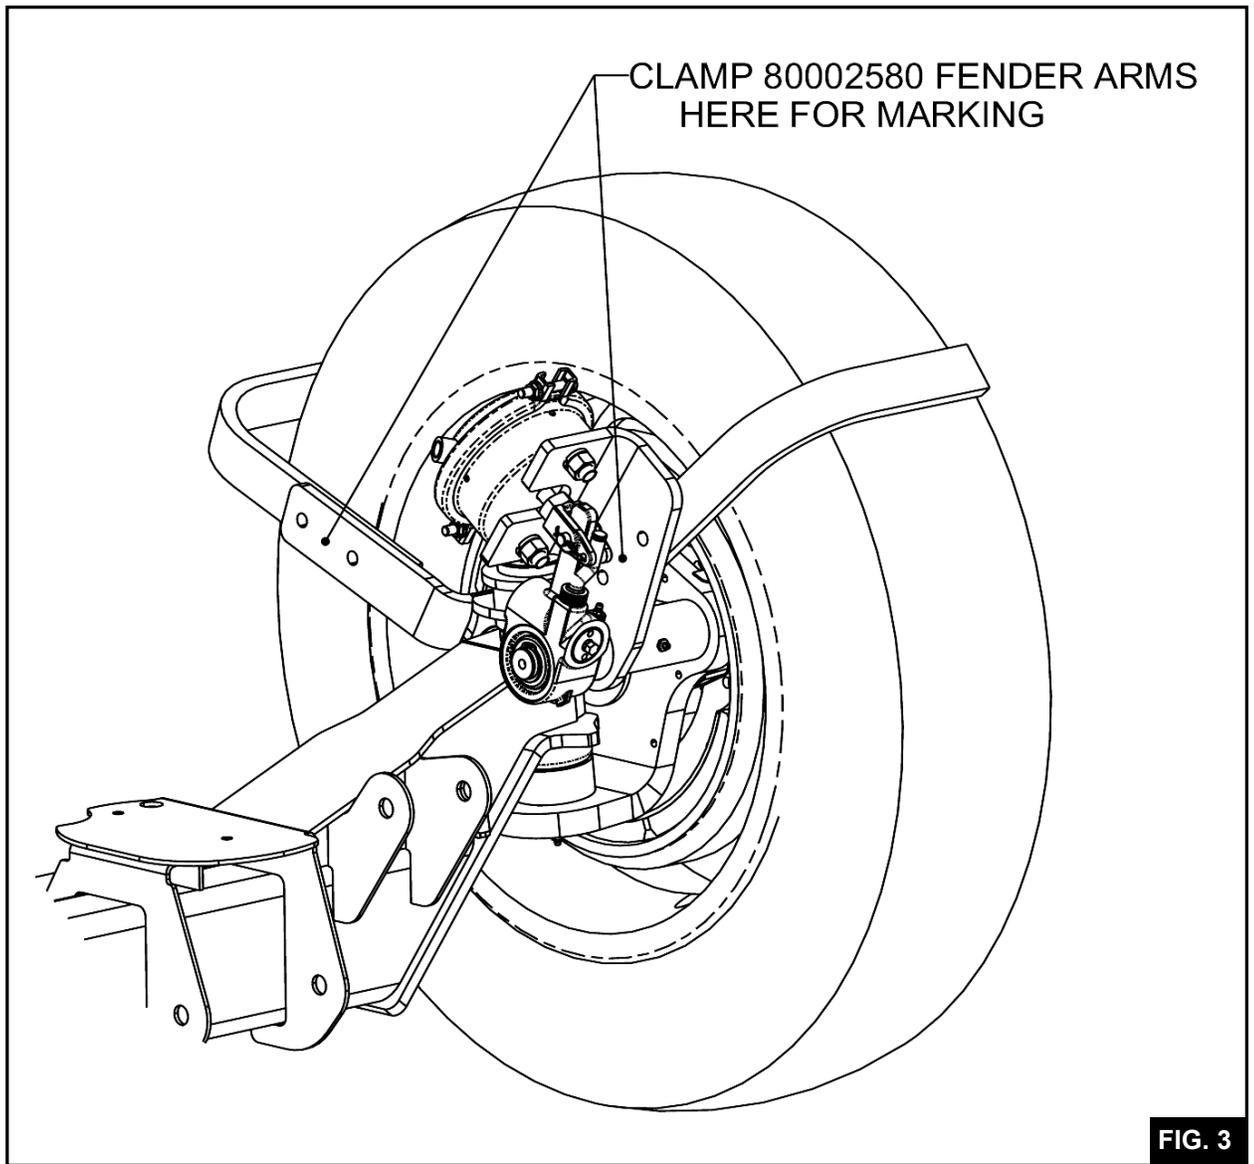
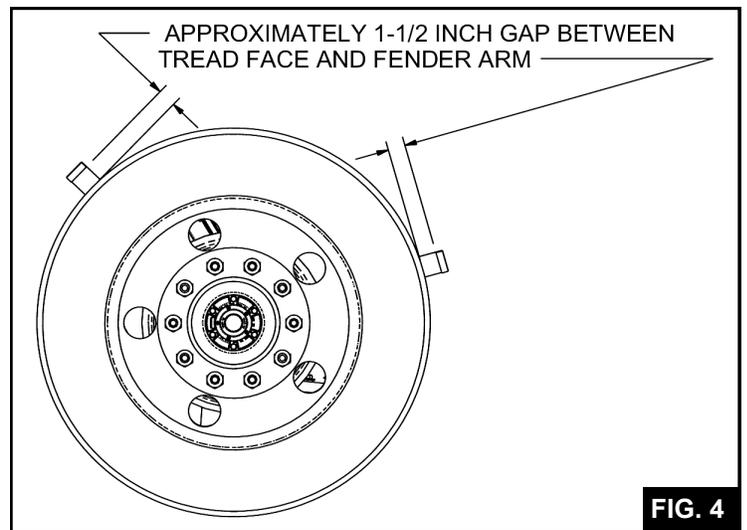

FIG. 3
FIG. 4
3.6 Clamp the fender arms to the mounting brackets as shown in **Fig 3**. Verify that there is approximately 1-1/2" gap between the aluminum fender arm and the tread face of the tire. (See **Fig 4**).